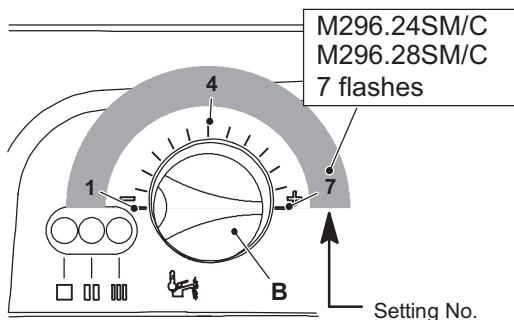

Figure 10.22
At this step it is possible to visualize the current setting by keeping the reset button D pressed for more than 5 seconds. The lamps F will flash a number of times corresponding to the setting (Figure 10.22).
- 5 Change the setting by turning the knob B on the position corresponding to the desired setting (Figure 10.22). By turning the knob B, the lock-out signal lamp E blinks quickly (2 per seconds) indicating that the setting has changed and must be memorised.
At this step it is possible to visualize the current setting by keeping the reset button D pressed for more than 5 seconds. The lamps F will flash a number of times corresponding to the setting of Figure 10.22 that must be seven times.